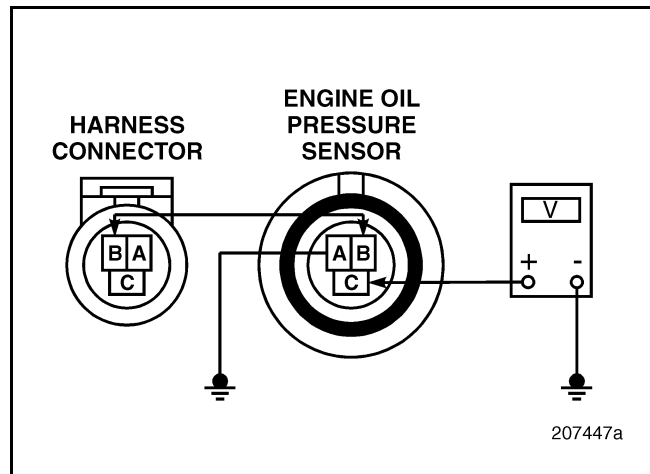

Figure 23
6. Measure the voltage between EOP sensor pin C and a good ground at various pressures between 0 psi and 80 psi (see Figure 23). The correct pressure and output voltage specifications are shown in the table below.